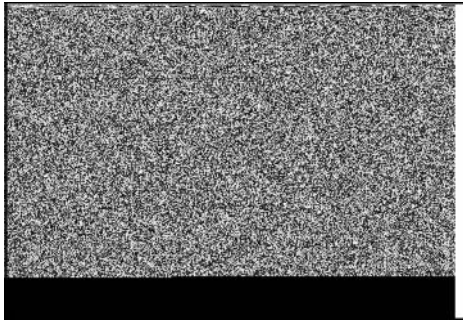

Figure 42
1. Using a feeler gauge (**A**, Figure 42) adjust the locking hex nut (**B**) to obtain the correct clearance as listed in Section 12 - Engine Specifications.